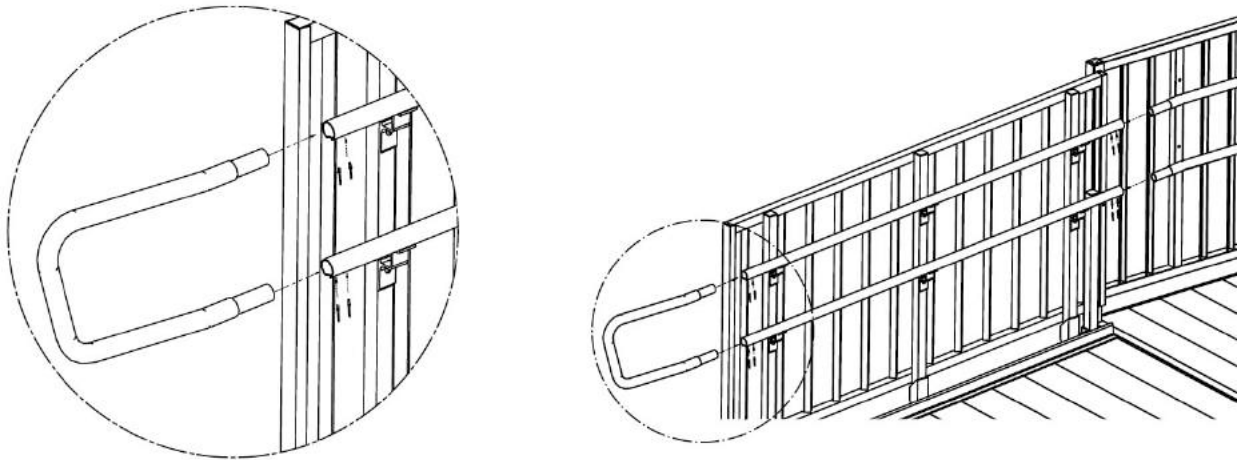

FIG. 47
- 8.8.1 The upper (adult) handrail is also installed in the same manner except the upper and lower termination loops are not used. These components will be replaced by either a dual termination loop (FIG. 47).